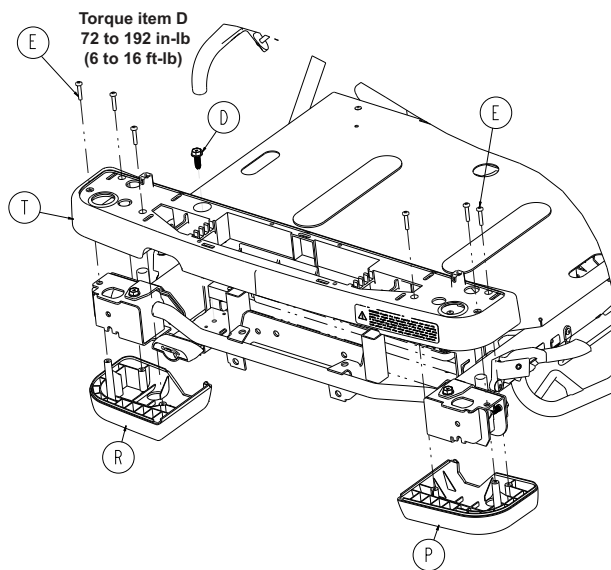

Figure 49 – Foot end covers
- Using a T25 Torx driver, remove the six screws (E) that secure the foot end bottom covers (P and R) to the mid cover (T) (Figure 49). Save the foot end bottom covers and screws.